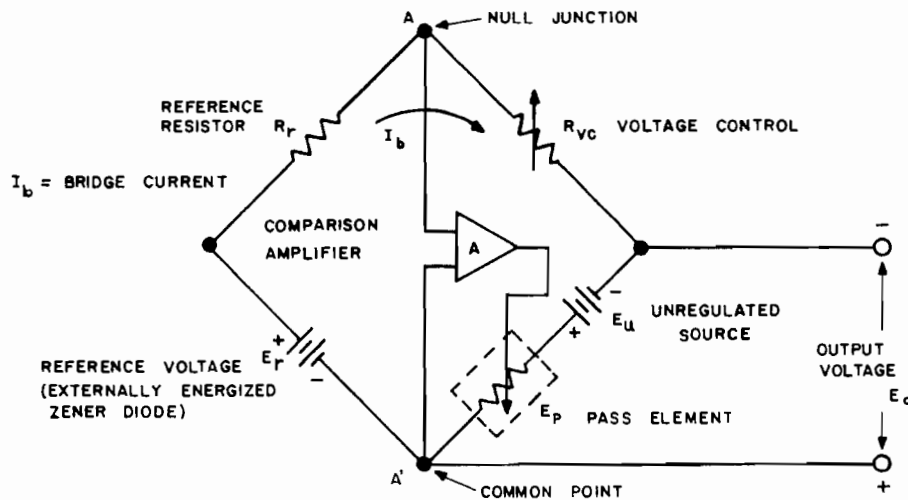

FIG. 3-4 KEPCO POWER SUPPLY AND COMPARISON BRIDGE CIRCUIT.
- 3-8 GENERAL. A few general remarks may be in order to familiarize the user of this equipment with the terminology and basic equations pertaining to remote programming of the Kepco PAT Power Supplies. Electrically, the power supply consists of the unregulated d-c source ( $E_u$ ), the pass element ( $E_p$ ), the d-c error amplifier (A), and a comparison circuit which resembles a 4-arm electrical bridge. (Refer to FIG. 3-4.) The elements of the bridge are arranged to produce a virtual zero at the amplifier input when the bridge circuit is at balance ( $V_{AA'} = 0$ ). Any tendency for the output voltage to change in relation to the reference voltage ( $E_r$ ) creates an error signal which, by means of negative feedback and the amplifier, tends to correct the output voltage towards restoration of bridge balance.